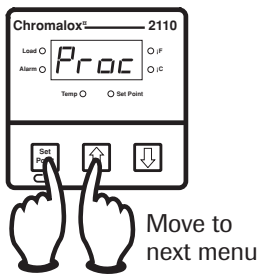

Figure 4.5
3. Press and hold the Set Point (\curvearrowright) button and press the \uparrow or \downarrow buttons to scroll the configuration menus. The display will show the name of the menu and then begin to toggle between the name and the current value. See Figures 4.5 and 4.6.